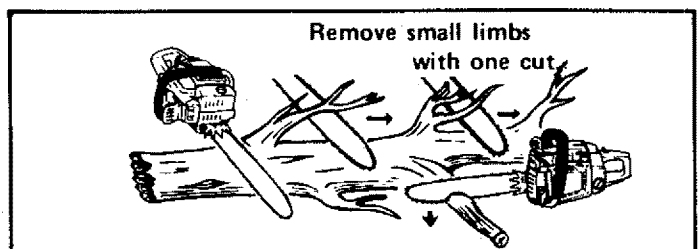

Figure 25
- c. **Start at the base of the felled tree and work towards the top, cutting branches and limbs.** Remove small limbs with one cut. Figure 25.